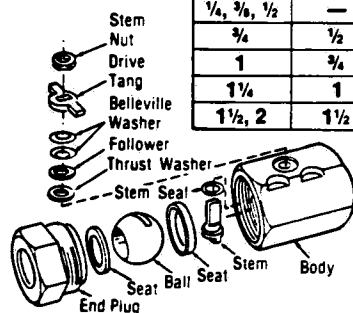

Figure 7-8. PNEUMATIC BALL VALVE.
8. Place new seat in body. Turn stem to CLOSE position, insert ball making sure that lower end of stem engages slot in ball. Turn stem to OPEN position. Place valve body in vise as in step 3. Install new seat in end-plug. Tighten end-plug into body to torque value given in chart of Figure 7-8.